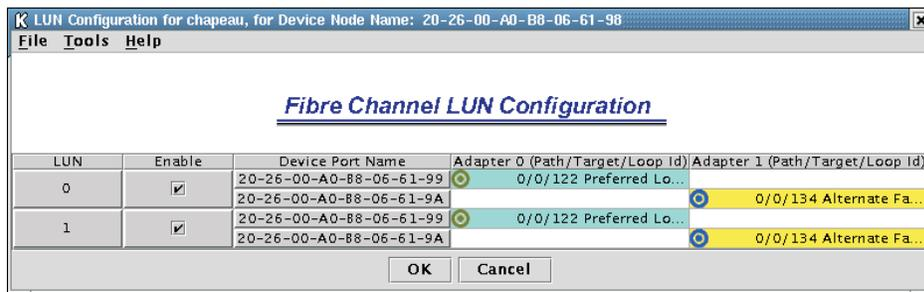

Figure 141. LUN Configuration
7. Click **Configure LUNs**. The LUN Configuration window opens (see Figure 141).